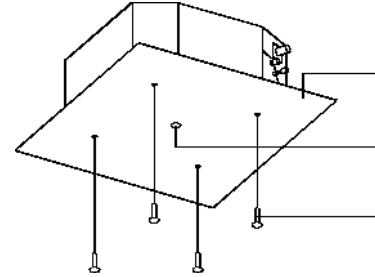

Fig. 12 – Attach Screws
- After removing the packaging material from the paper pattern for installation, attach the paper pattern to the unit with the attached screws (see Fig. 12).